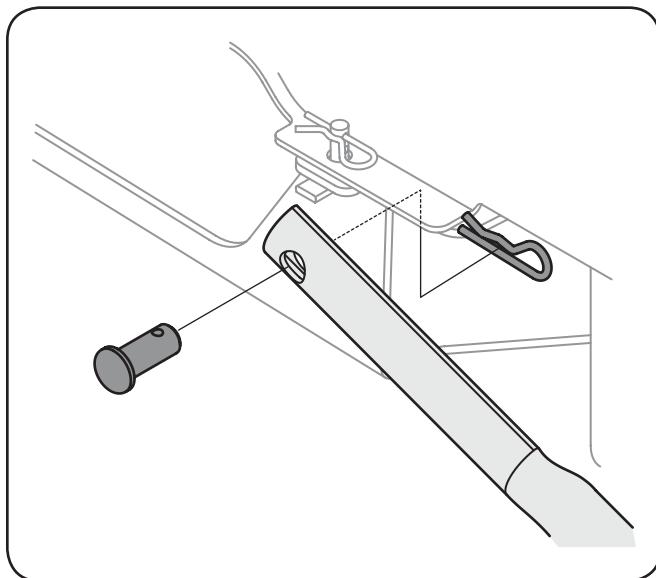

Figure 3-11
1. Secure the left support tube to the front of the undercarriage assembly with the clevis pin and hairpin clip removed earlier. See Fig. 3-11.